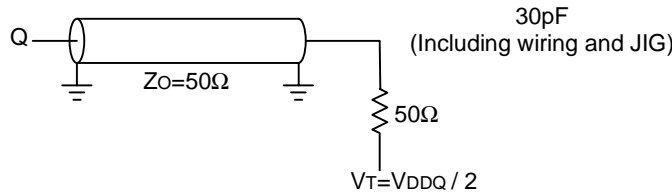

Fig.1 Output load
**(1) MEASUREMENT CONDITION**
- Output load ..... Fig.1
Note25.Test conditions is specified with the output loading shown in Fig.1 unless otherwise noted.